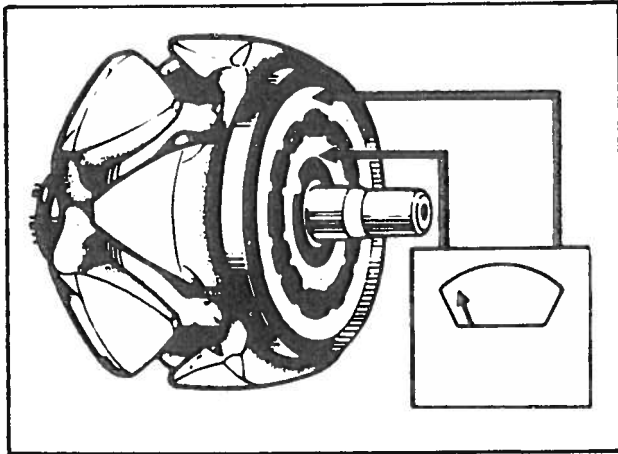
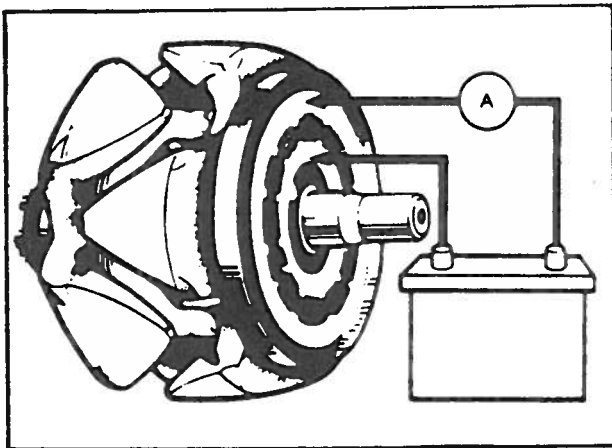

Fig. 16—Measuring Rotor Winding Resistance with Ohmmeter (Alternator dismantled)
Fig. 17—Measuring Rotor Winding Resistance with Battery and Ammeter (Alternator dismantled)
1. Test the rotor winding by connecting either an ohmmeter (Fig. 16) or the appropriate battery supply (Fig. 17) between the slip-rings. The reading of resistance should be 3,8 ohm. If the alternative test has been made, the value of the current should be approximately 3,2 ampere.